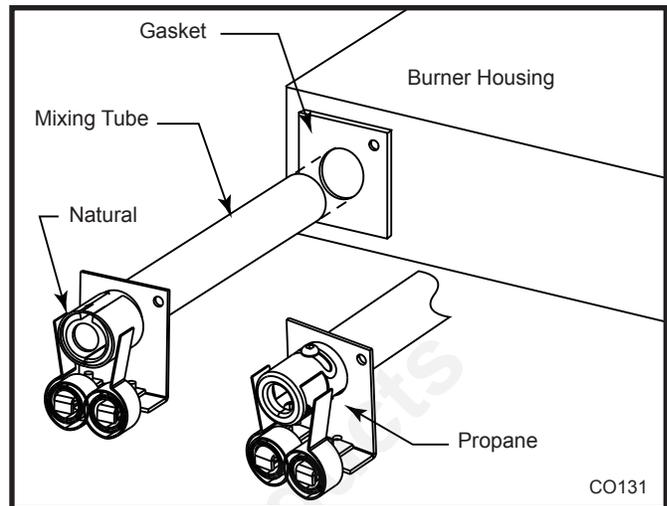

Fig. 68 Replace mixing tube and gasket.
- Replace the mixing tube on the burner housing by removing the two (2) screws that secure the mixing tube to the burner housing assembly. Remove the old gasket behind the mixing tube. (Fig. 68) **NOTE: The mixing tube for propane gas has only two bimetallic springs that are in the closed position at cold start. The mixing tube for natural gas has two spring/shutter collar assemblies that are in the closed position at cold start. Make sure the correct mixing tube is used for conversion.**